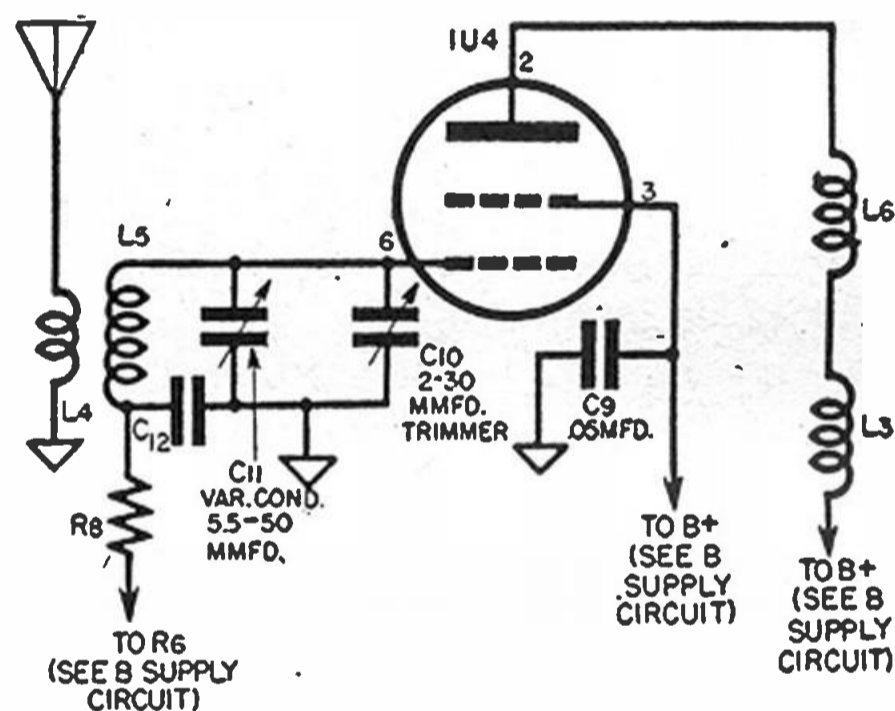

Fig. 8-20. R. F. amplifier.
e) R.F. Amplifier Circuit. See Figure 8-20.